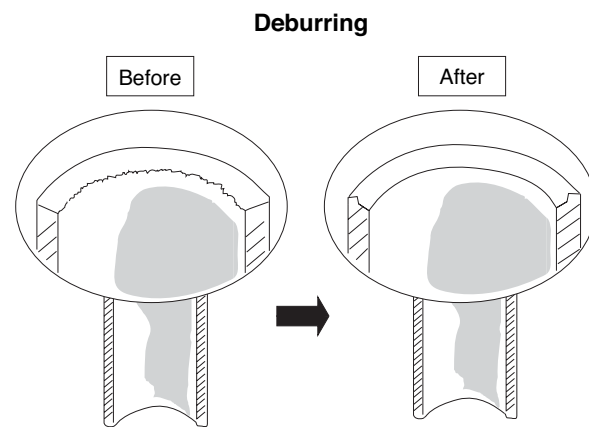

Fig. 9-1
- (1) Cut the copper tube to the required length with a tube cutter. It is recommended to cut approx. 12 – 20 in. longer than the tubing length you estimate.
- (2) Remove burrs at each end of the copper tubing with a tube reamer or file. This process is important and should be done carefully to make a good flare. Be sure to keep any contaminants (moisture, dirt, metal filings, etc.) from entering the tubing. (Figs. 9-1 and 9-2)